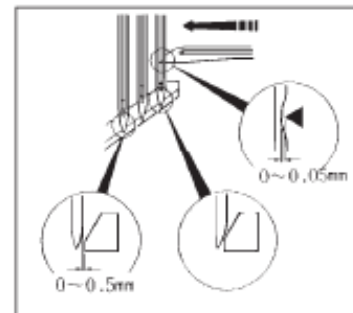
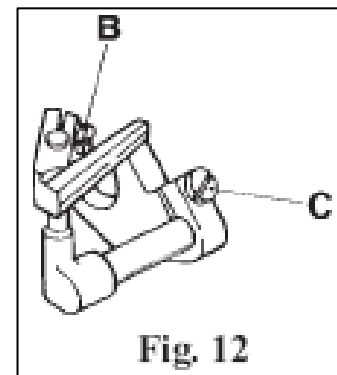

Fig. 11
Fig. 12
This is the standard position. *Adjust the height of Needle Guard (Rear) by loosening Screw (B) so that the line (A) will come to the center of each eye, when Needles lower to lowest positions, and when the point of Loper passes the back of each Needle, Right Needle is pushed forward leaving a clearance of 0-0.05mm for left Needle.(Fig. 11) By loosening Screw (C), adjust the clearance between right Needle and Loper to be 0-0.05mm when the point of Loper comes to the center of Right Needle. At this moment, the clearance of 0-0.05mm should also be provided between Needle (left) and the Guard (Rear) by loosening Screw (B). (Fig.12)